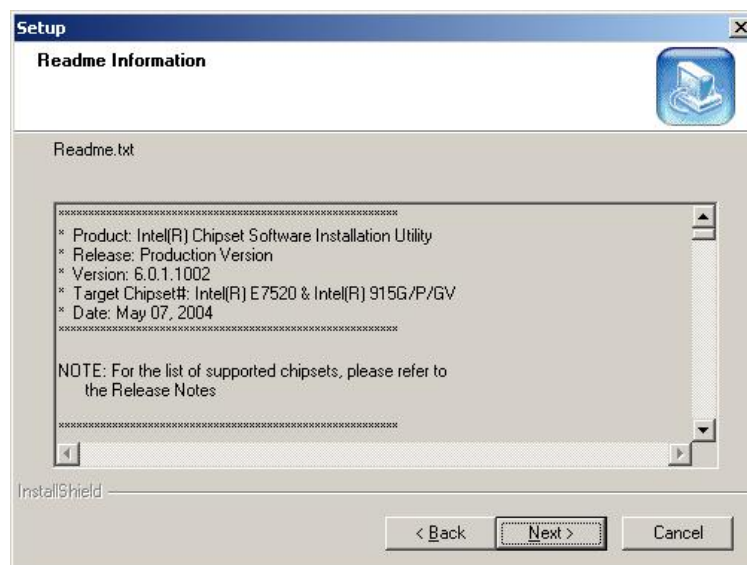

Figure 6-4: Readme Information
Step 5: Agree to the license terms by clicking “Yes”. The “Readme” in Figure 6-4 appears.